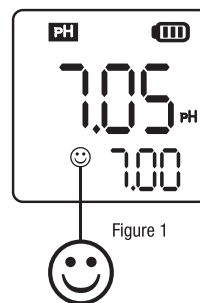

Figure 1
5. Dip the probe in pH 7.00 buffer solution, stir gently, and allow it to stand still in the buffer solution until a stable reading is reached. When measurement stability icon (\odot) appears and remains on the screen (see Fig 1); then short press CAL/ \leftarrow key to complete the one-point calibration. The tester returns to measurement mode and indication icon "M" will appear at the bottom left of the screen, indicating the middle point of calibration has been completed.